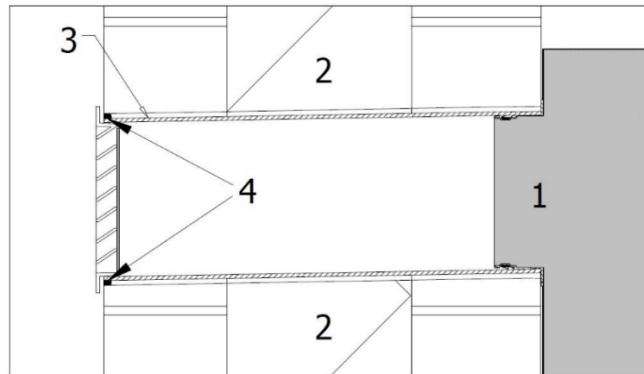

Figure 9: Sealing the gaps around ducts, sectional drawing
Please note that Figure 9 below depicts a unit with intake/exhaust ducts on the back side through a wall.
Figure 9 is a sectional drawing depicting a wall with a duct hole and duct fittings. A unit is installed on the inner wall, i.e. the grey box on the right-hand side marked with the number '1'.
1. Apply sealant to the duct's outside edges, see '4' in Figure 9 above.